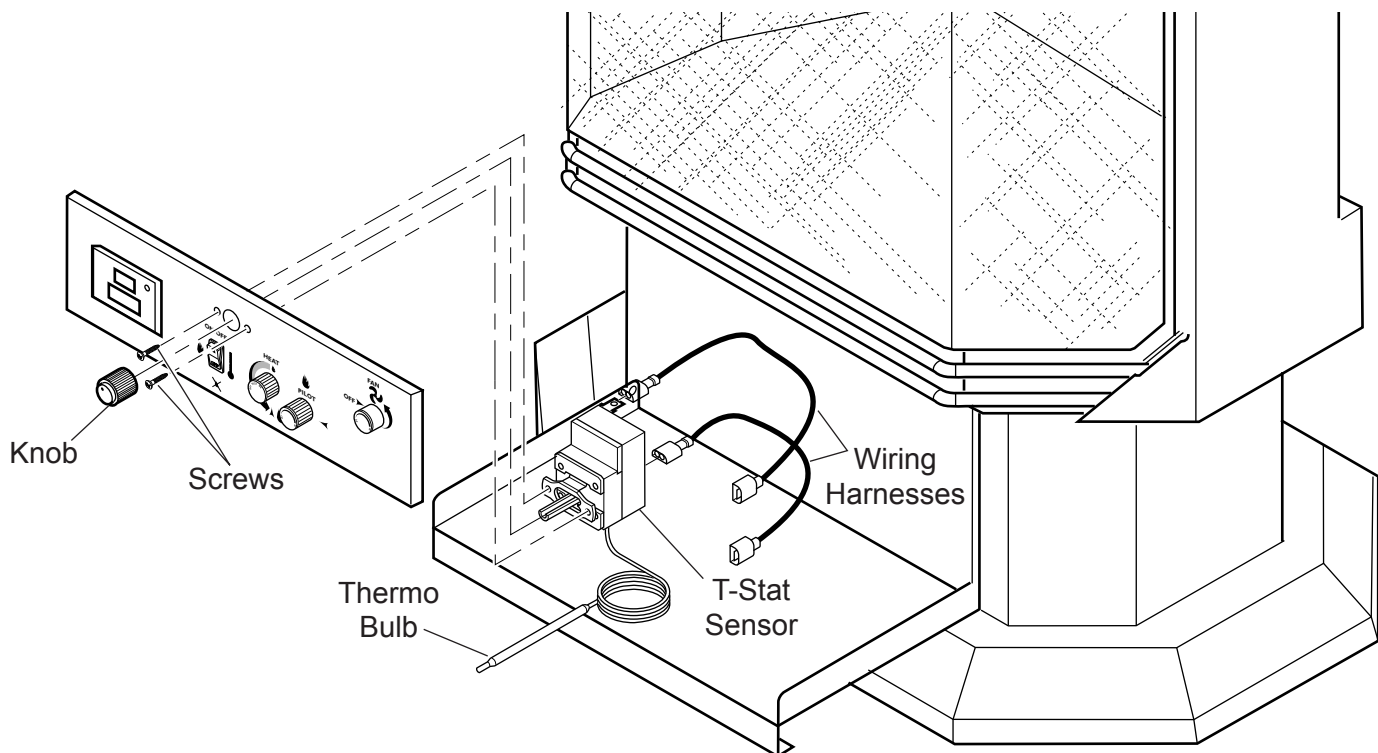

Figure 9 - Installing T-Stat Sensor and Control Knob
2. Slip the t-stat sensor behind the faceplate. Attach the t-stat sensor to the faceplate with 2 screws provided. Make sure the thermo bulb wire is on the bottom of the t-stat sensor. See Figure 9.
3. Attach wiring harnesses to back of t-stat sensor. See Figure 9. Attach the other ends of the harness to either TP/TH and TH on control valve or to existing wiring harness with two (2) 0.250" male spade terminals for remote t-stat operation. See Figure 7, page 13.
6. Install knob to shaft of t-stat sensor. *See Figure 9, page 14.*